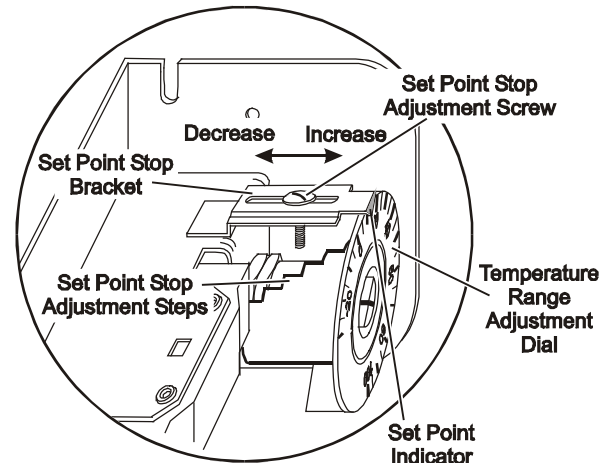

Figure 3: Adjusting the Set Point Stop
A19AAT type thermostats have an adjustable set point stop that may be set to limit the low cutout temperature adjustment. See Figure 3.
2. Loosen the set point stop adjustment screw and move it along the set point stop bracket (while adjusting the temperature range dial) until the adjustment screw is positioned in the path of the appropriate set point stop adjustment step (Figure 3).